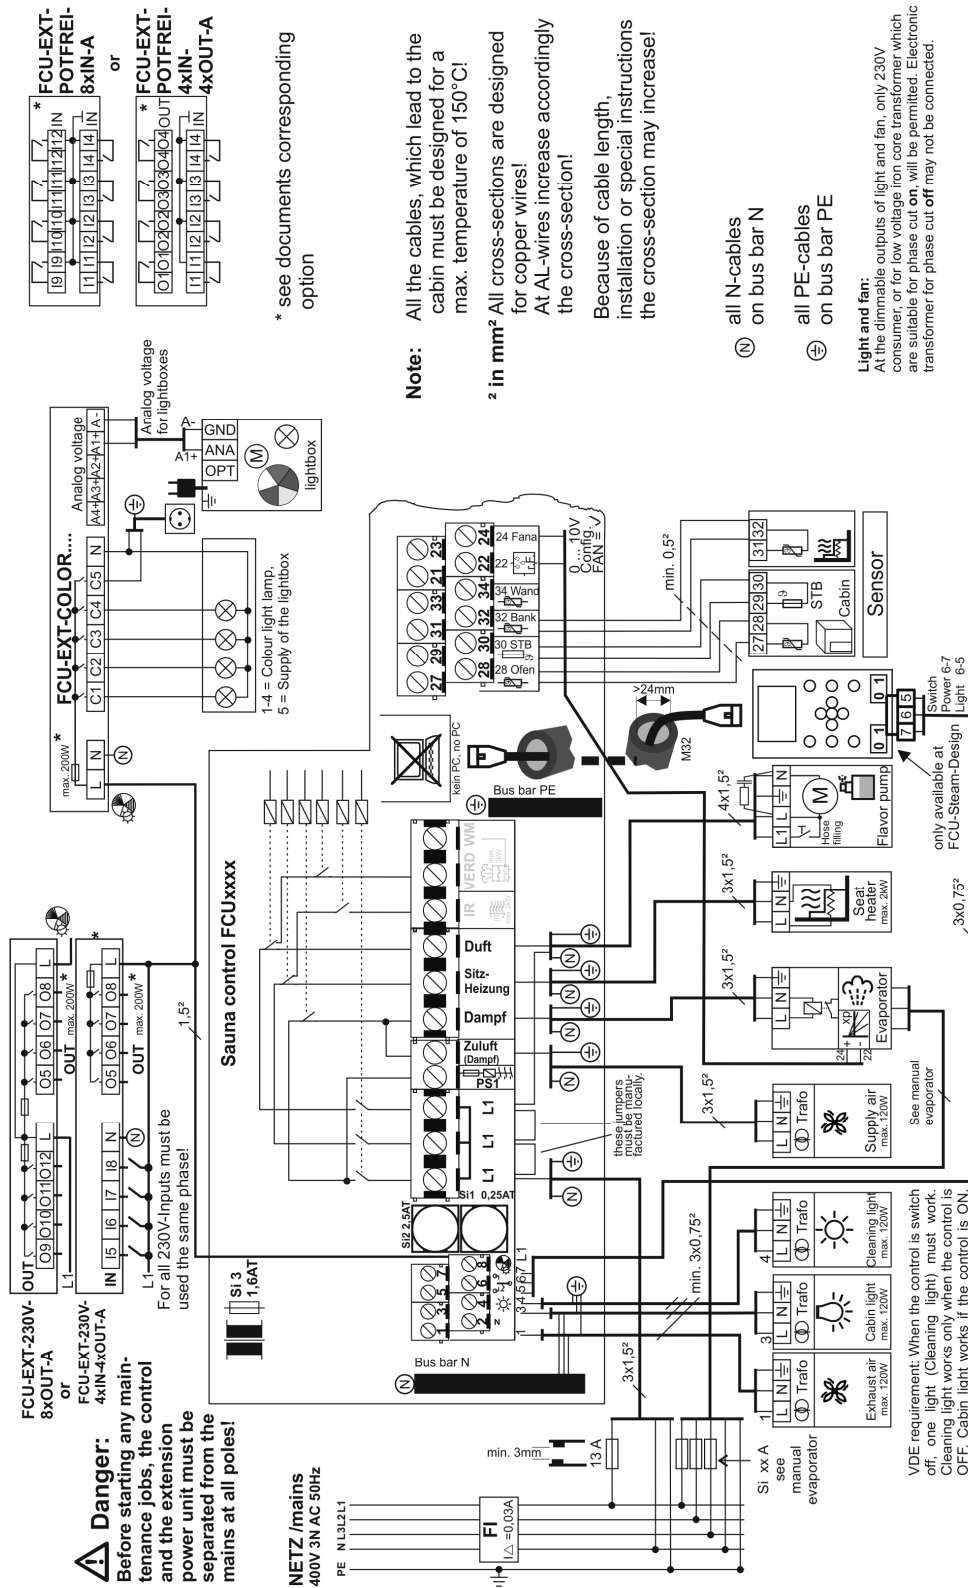

Figure 11: Electrical circuit diagram
3. Connect the sensor to the steam bath control as per the figures on page page 29, Figure 11 ff.
→ For electrical circuit diagram see page 26, Figure 11.
- Have the cable specifications given in Table 4, page 14 and the electrical circuit diagram Figure 11, page 29 been followed?
- Are the sensors (temperature) connected as per the electrical circuit diagram Figure 11, page 29?
- Have the cable specifications as per Table 4, page 11 and the electrical circuit diagram Figure 11, page 26 been adhered to?
- Are the sensors (temperature) connected as per circuit diagram Figure 11?